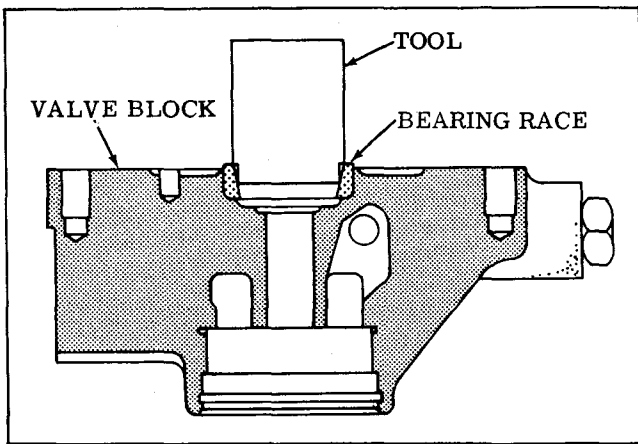

Figure 16. Valve Block Race Installation Procedure.
If the bearing race was removed from valve block (51), install a new bearing race as shown in Figure 16. Use tool shown in Figure 8. This completes the assembly of the relief and check valves into the valve block. The Gerotor parts will be assembled into the valve block during final assembly section VI. Paragraph I.